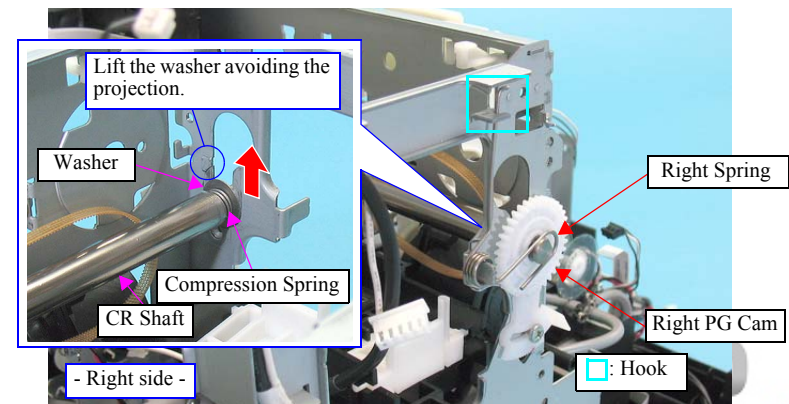

Figure 4-136. Removing the Carriage Assy (2)
- When installing the Right PG Cam, first attach the compression spring and then attach the washer as shown in Figure.4-136.